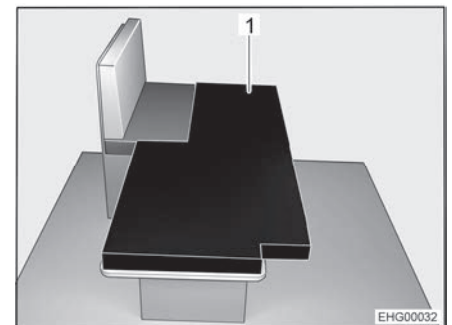

Fig. 44 After conversion
- Place additional cushion (Fig. 44,1) on the lowered table as shown in the image.